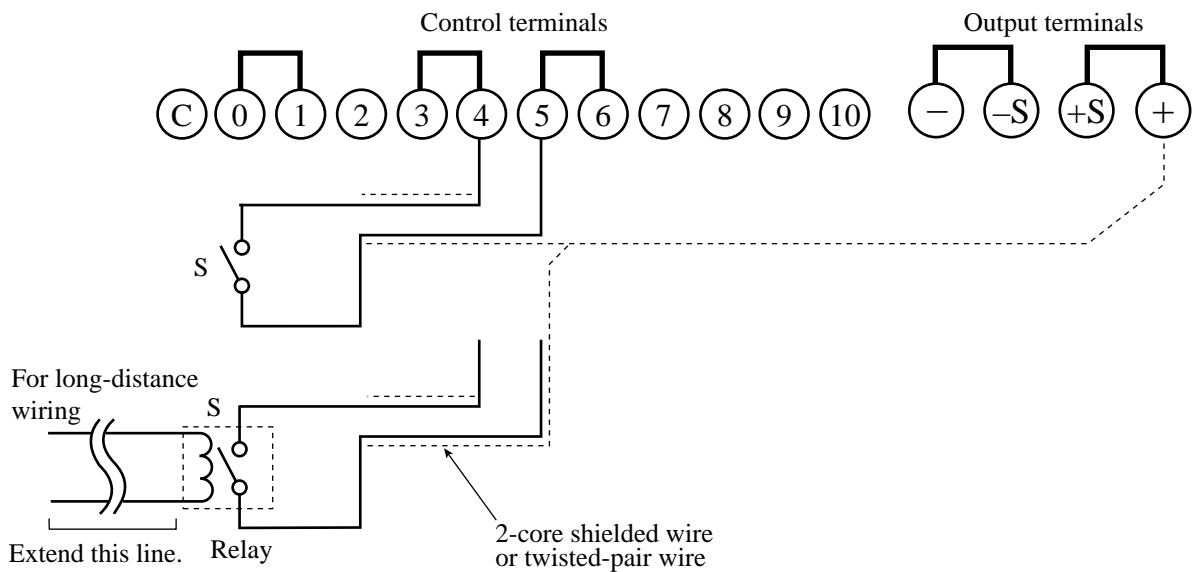

Fig. 4-10 Connection for output ON/OFF control (II)
2. Connect a contact S (switch) across the control terminal 4 and 5 as shown in Fig. 4-10.
- Isolate the external contact (S) and the cable connected to it with at least the isolation voltage of the unit. For details, see 2.6 "Grounding the output terminal."